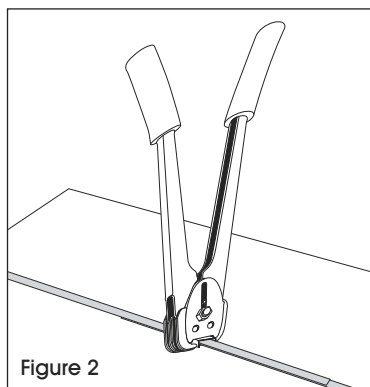

Figure 2
2. Press the handles of the sealer together while keeping the sealer in a vertical position. The seal will be completely sealed when the handles are vertical and can be squeezed no further. (See Figure 2)
position verticale et qu'il n'est plus possible de les serrez davantage. (Voir Figure 2)